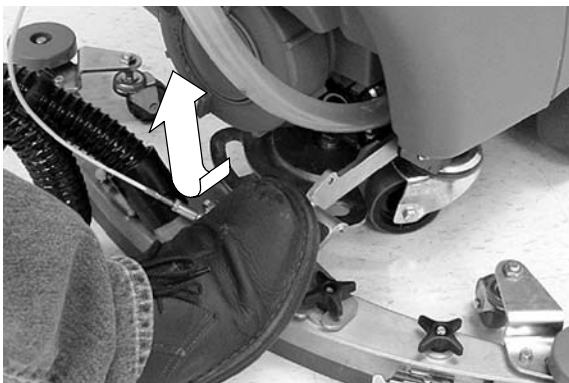

FIG. 19
4. Lower the scrub head to the floor by stepping on the scrub head lift pedal as shown (Figure 19).